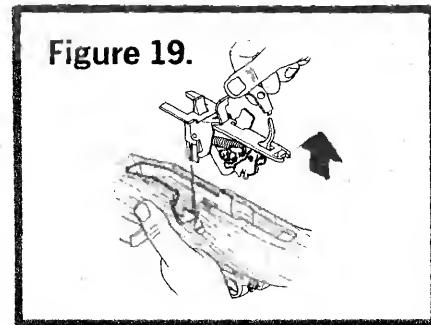

Figure 19.
6. Remove trigger group (Figure 19).